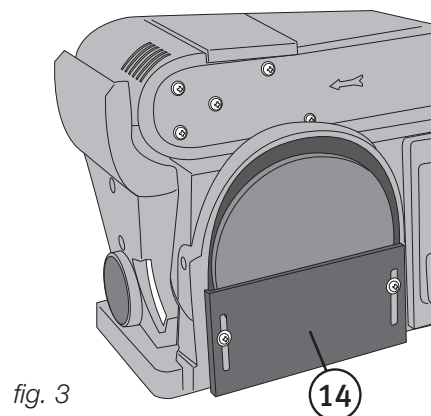

fig. 3
3.1 Fitting/changing sanding disc paper (fig. 3)